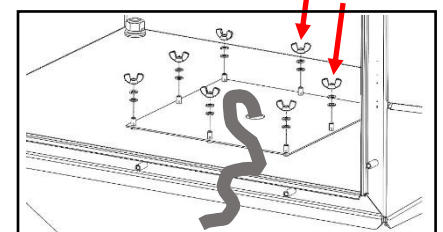

Figure 21—Placement of Removable Plate inside bottom of charger (optional Cable Gland not shown)
7. Feed AC power-in cable in center of pedestal up through removable plate, taking care not to damage gasket on down-side of plate, and lower plate back onto 8 small studs (Figure 21). Suggestion: We recommend you use a cable gland (installer supplied) appropriately sized for the cable being fed through plate to complete this step OR use duct seal later (to complete step 9).
8. Return all eight sets of M5 wingnut, split washer, and flat washer to studs and hand-tighten to secure plate to charger (Figure 21).
7. Feed AC power-in cable in center of pedestal up through removable plate while taking care not to damage gasket attached to plate's downside, and lower plate back onto 8 small studs (Figure 21). Suggestion: Use a cable gland (installer supplied) appropriately sized for the cable being fed through plate to complete this step OR use duct seal later (in step 9) after securing plate to charger.